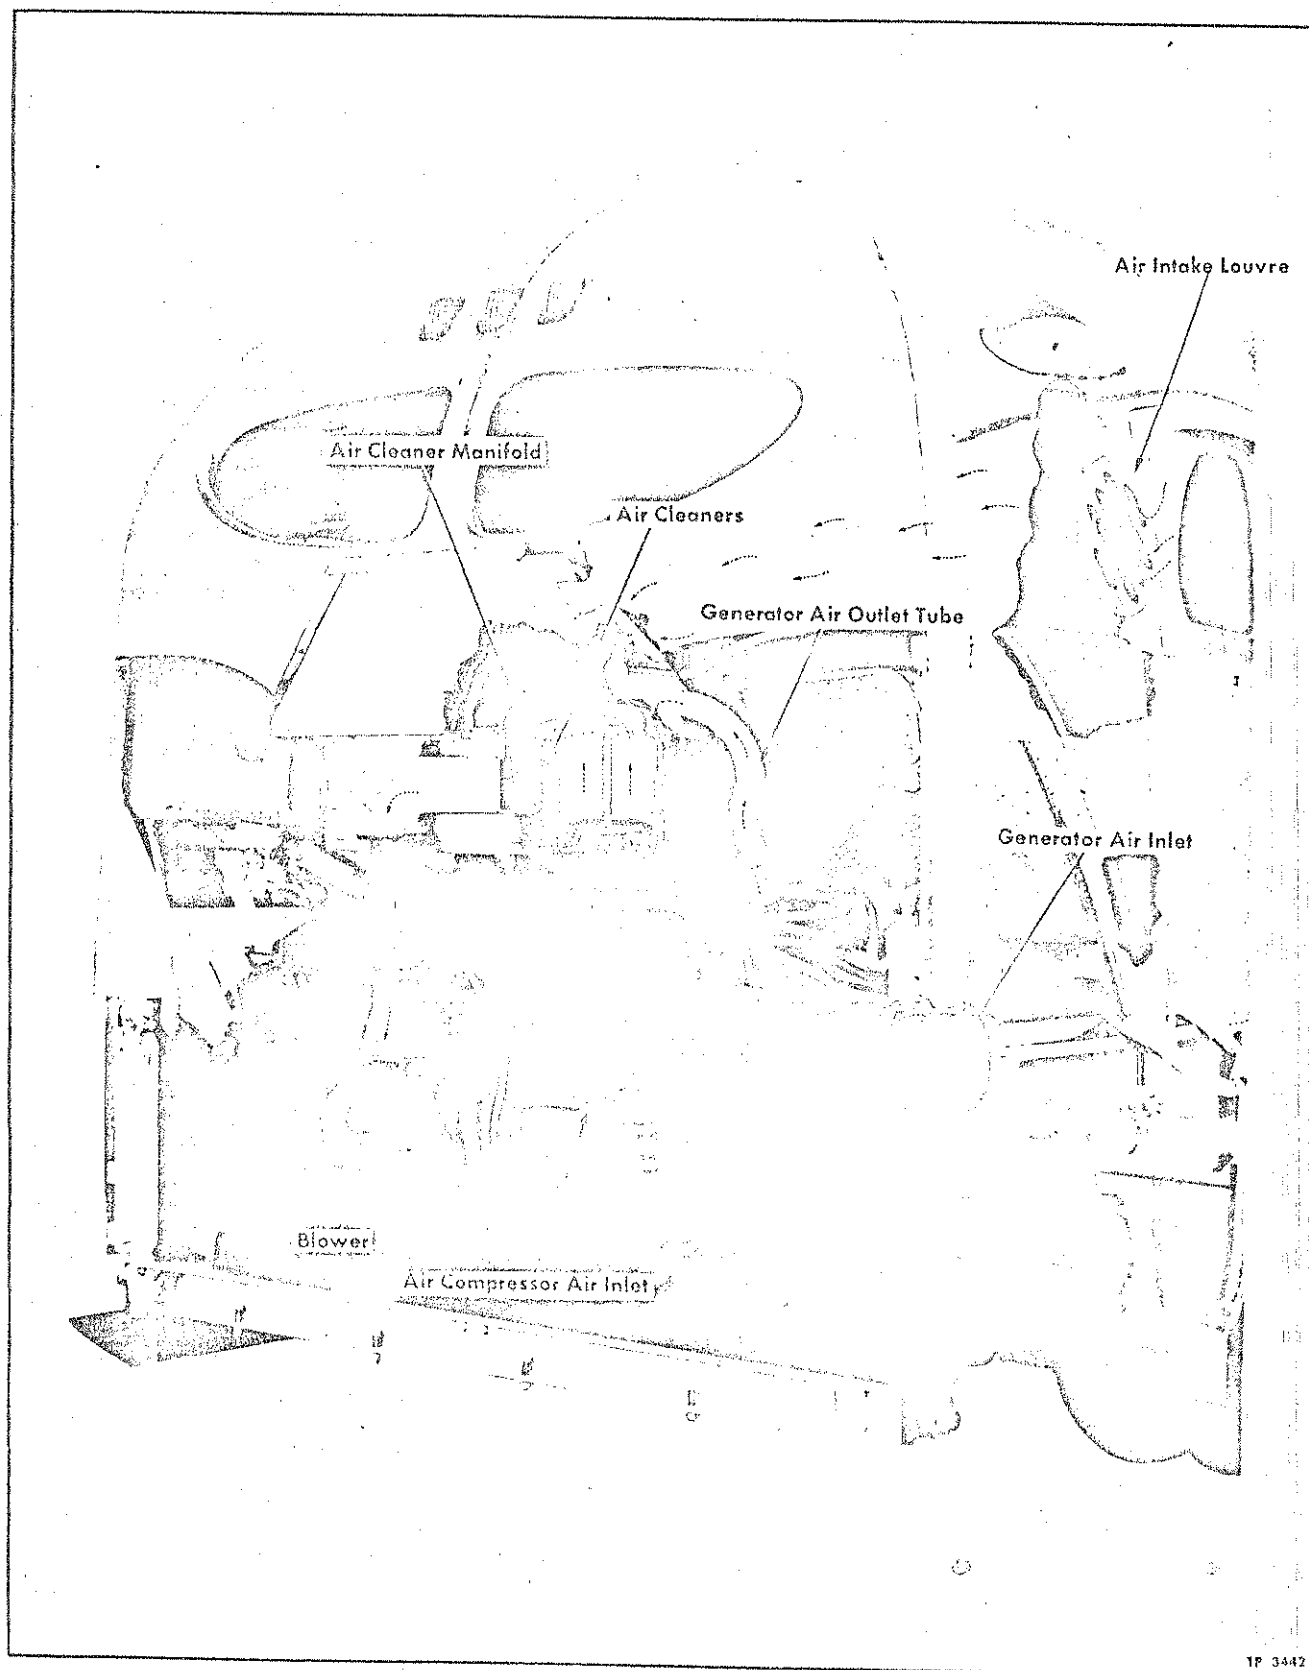

Figure 4—Air Intake System
Air for engine is taken in through louvered openings at right and left rear corners of body. Air passes through compartment at rear of rear seat into silencer then through air cleaners to engine blower as shown in figure 4.
1. Assuming that air cleaner elements have just been cleaned and dipped in oil, and sumps filled with oil to proper level, operation is as follows: When engine starts, air is drawn into cleaners as illustrated in figure 4. Until speed of engine reaches about 100 rpm velocity of air is not sufficient to agitate pool of oil in sumps, but sudden reversal and impact of air stream will divert larger particles of dirt into sumps, and finer particles will be filtered out by oil wetted mesh.